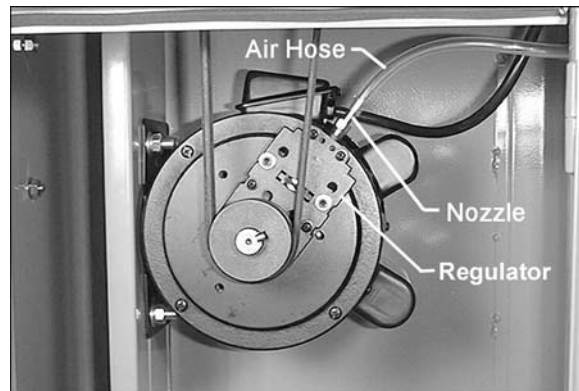

Figure 33
Refer to Figures 33 and 34.
1. The *air hose*, which is already connected to the saw body, should be inserted through the hole in the stand (visible in Figure 16) and connected to the *nozzle* of the air regulator on the motor (Figure 33). Use a lighter or match to briefly heat the end of the hose so that it will slip over the nozzle. As it cools, it will form a tight seal over the nozzle.